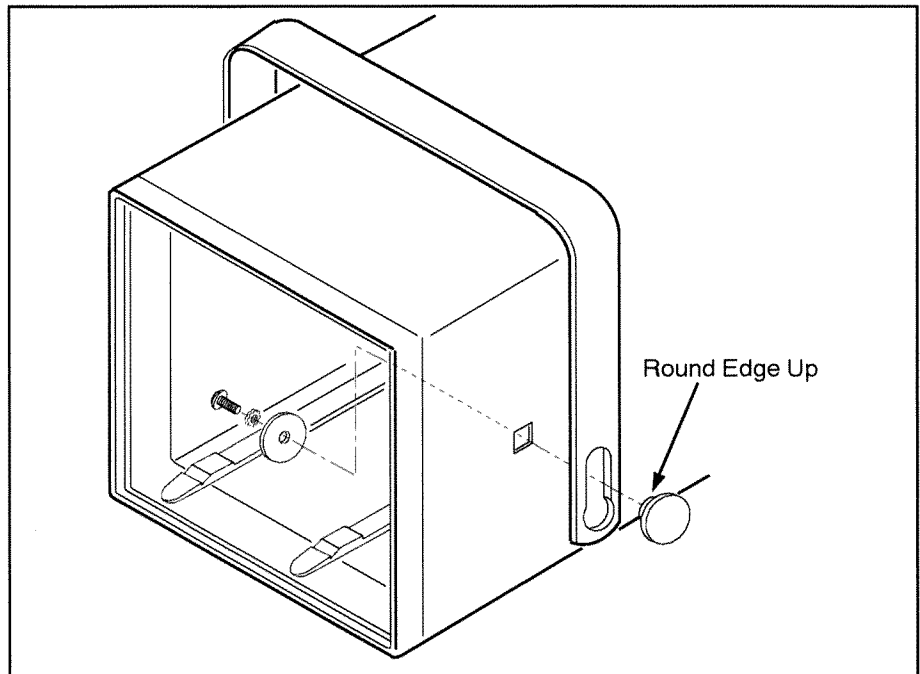

Figure 2-2: Handle installation
4. From outside of the power module, place the plastic locking button in the handle slot and into the square hole in the side panel, as shown in Figure 2-2. Note that the rounded edges of the button must face the top and bottom panels of the power module as shown in the illustration.